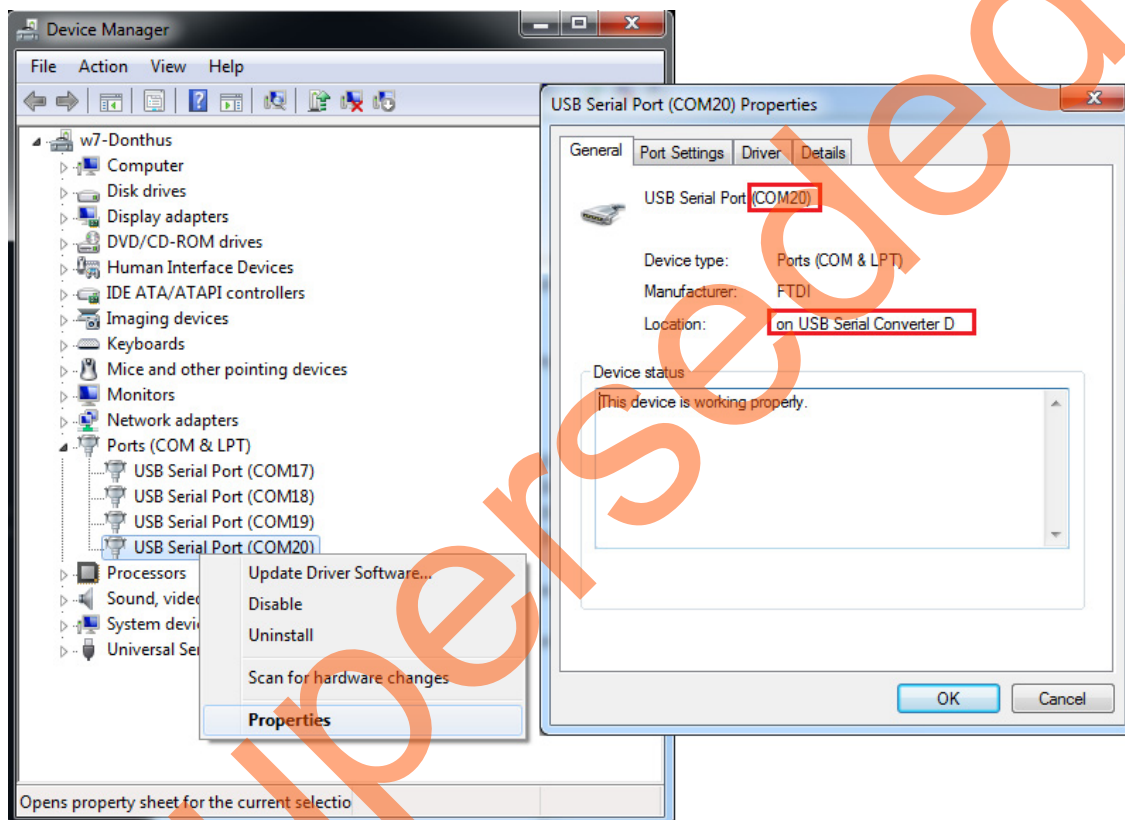

Figure 6 • USB to UART Bridge Drivers
2. Connect one end of the USB mini-B cable to the J18 connector provided on the SmartFusion2 SoC FPGA Evaluation Kit. Connect the other end of the USB cable to the host PC. Make sure that the USB to UART bridge drivers are automatically detected (can be verified in the Device Manager), as shown in Figure 6 on page 9.
Note: Copy the COM port number for serial port configuration. Ensure that the COM port location is specified as "on USB Serial Converter D" as shown in Figure 6.